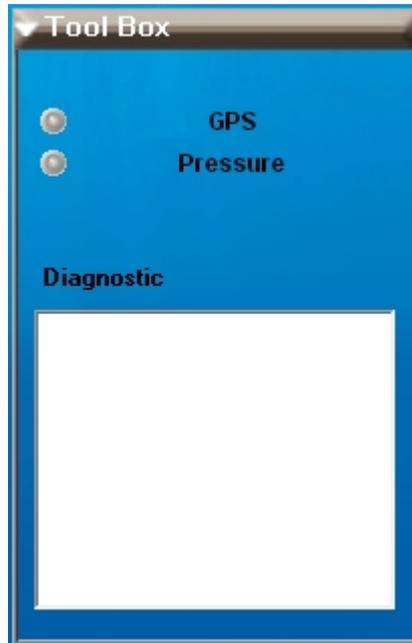

Figure 50 – Tool box of the External Sensors Status
- External Sensor Status Tool Box : it allows a quick check on the status of GPS and optional pressure sensor (see Figure 50). It also contains a diagnostic zone displaying alarm or warning messages.